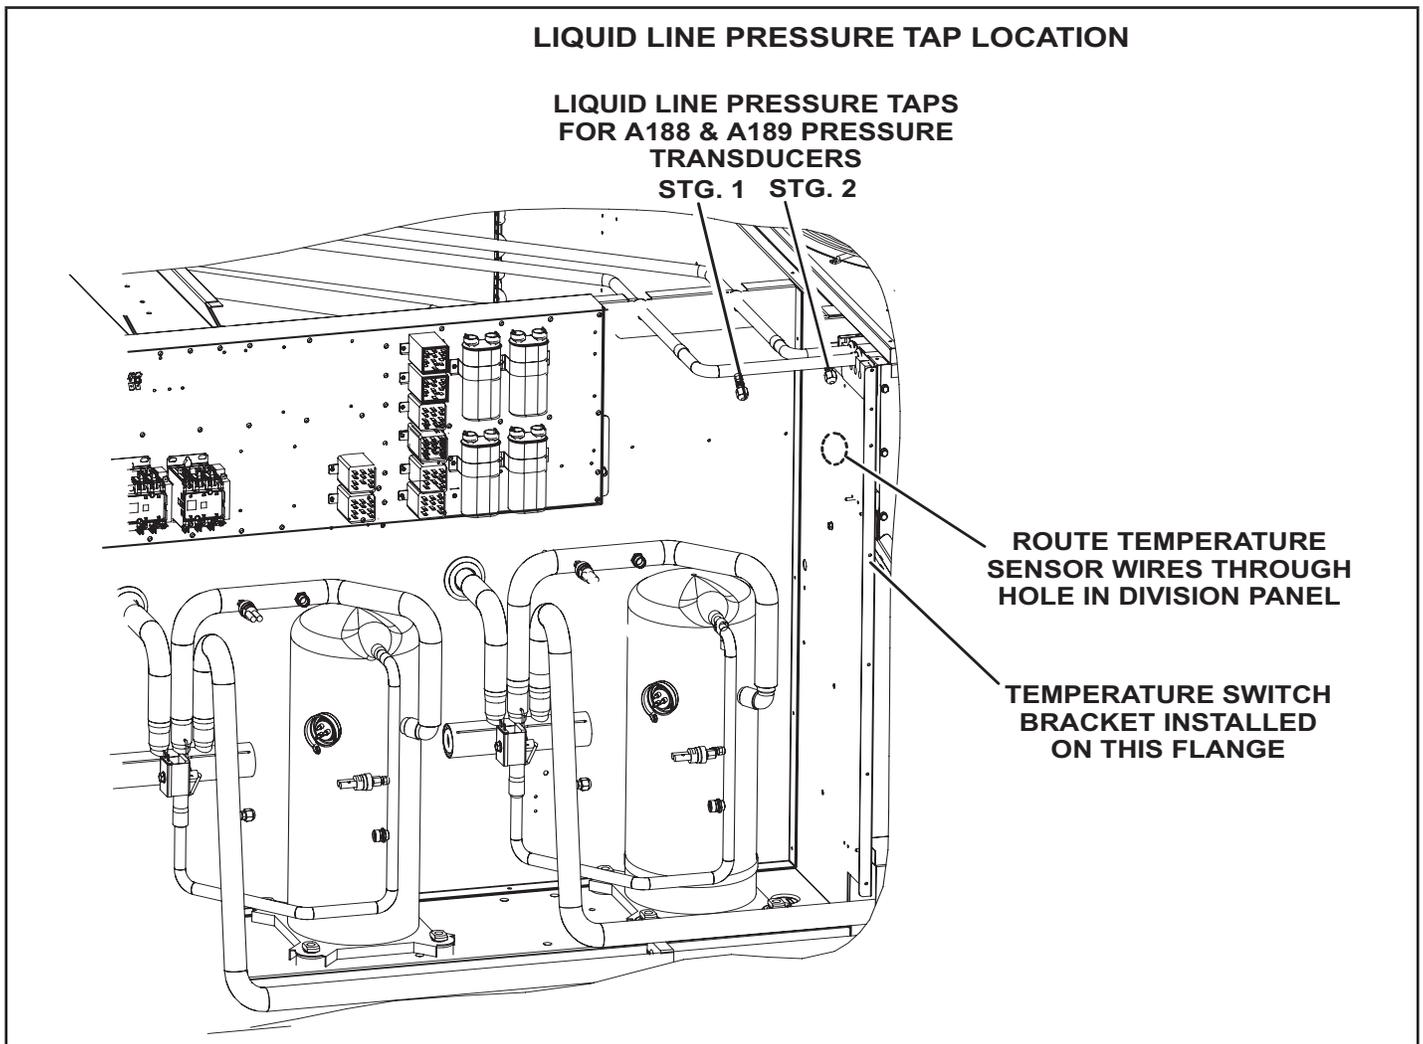

FIGURE 2
- 7 - Install the pressure transducers on compressor 1 (stg. 1) and compressor 2 (stg. 2). liquid line pressure tap as shown in FIGURE 2.